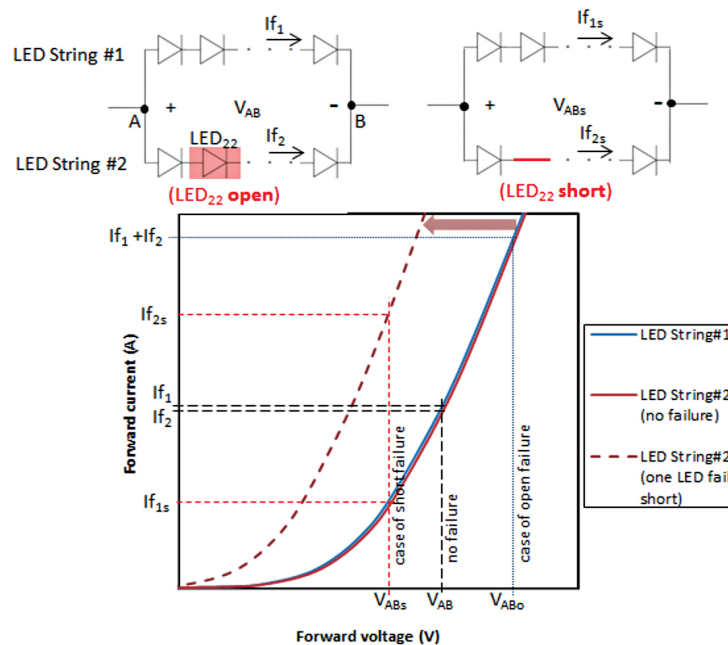

Figure 10. Case example of a series-parallel configuration showing how the current-voltage curve shift when one LED fails short.
A case example: Consider a LED system connected in series-parallel where each LED string has n LEDs in series and there are two parallel LED strings driven by one constant current power supply (Figure 10). In this example, the current flowing through each string (I_{f1} and I_{f2}) is about equal since the two LED strings have good forward voltage matching (by design).
- An open failure on one LED unit (LED₂₂ in Figure 10) results in all of the current ($I_{f1} + I_{f2}$) flowing through LED string #1. The forward voltage of the LED will increase from V_{AB} to V_{AB0} (Figure 10 graph). The increase in both the current and voltage may potentially exceed the thermal design of the LED system or the LED max rating which may cause the LED string #1 to fail eventually.
- Short failure on one LED unit (LED₂₂) in LED string #2 will result in the current-voltage curve to shift to the left as shown in the red arrow of Figure 10 graph. The forward voltage across both LED strings will drop from V_{AB} to V_{ABs} until the total current remains the same as the output of the constant current source i.e. $I_{f1} + I_{f2} = I_{f1s} + I_{f2s}$ where $I_{f2s} > I_{f1s}$. If thermal equilibrium is not achieved immediately in LED string #2, the excessive heating due to increase current flow will continue to shift its current-voltage curve further to the left as shown Figure 11. Eventually the entire LEDs in that string will fail due to cascading failures.